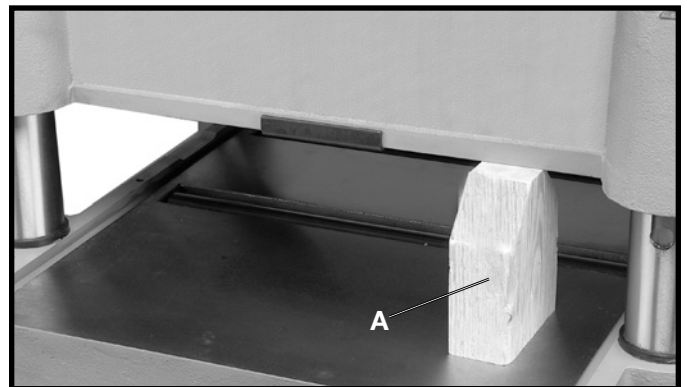

Fig. 50
2. Move gage block (A) Fig. 50, to opposite end of table, as shown. Distance from table to edge of head casting should be the same.